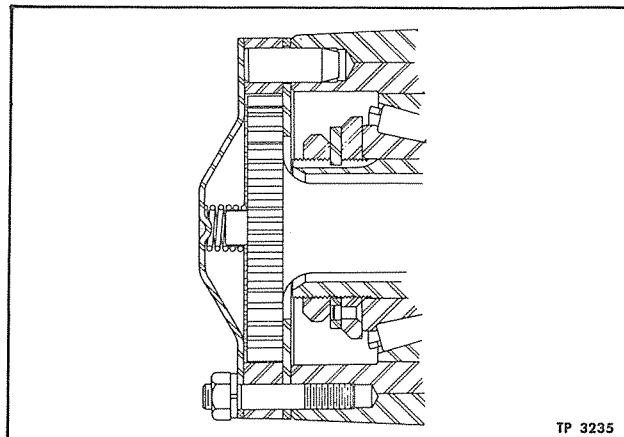

Figure 8—Axle Shaft Flange Installation
2. Install axle shaft (fig. 8) as previously directed under "Axle Shaft Installation" in this section.